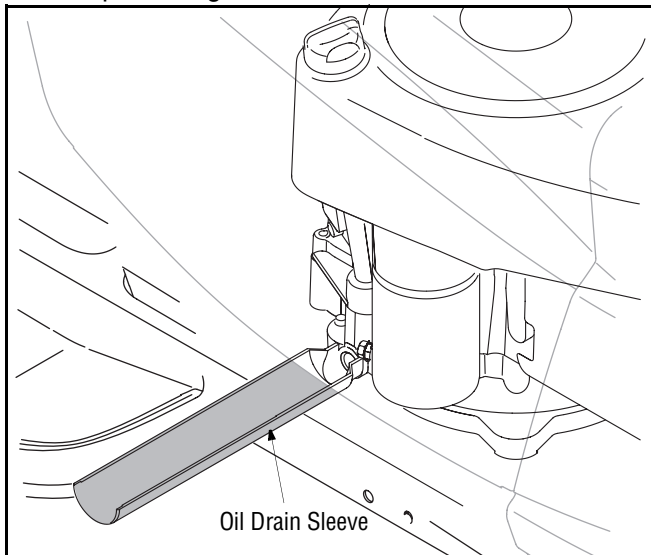

Figure 18
- Snap the small end of oil drain sleeve onto the oil sump. See Figure 18.